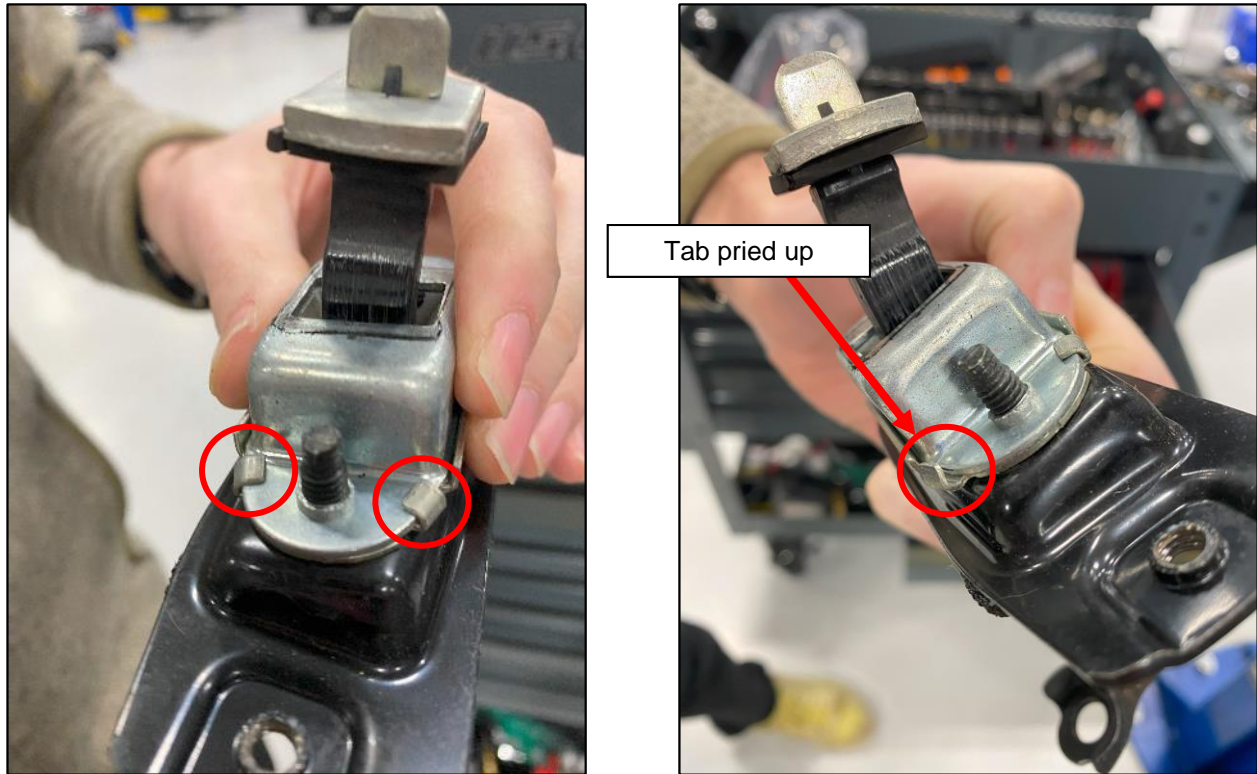

Figure 103
2. Using Pliers, pry up the (4) four tabs that secure the (2) two plates together. *Figure 103.*